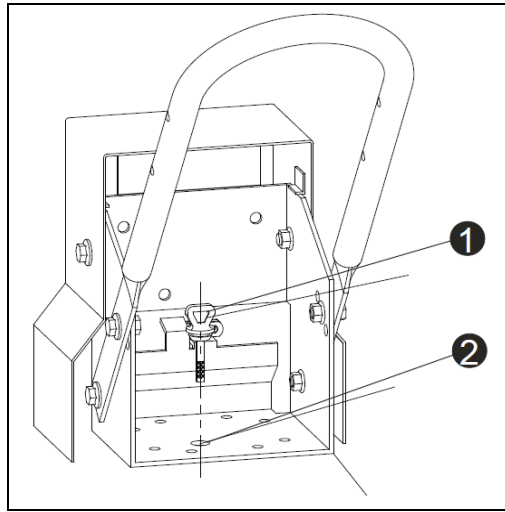

Fig.19
After filling the oil, put the dipstick ① (Fig.19) back into the transmission cover plate. Fix it to the right position ②.